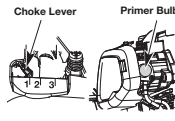

Fig. 5
3. Fully press and release the primer bulb 10 times, slowly. Some amount of fuel should be visible in the primer bulb (Fig. 5). If fuel can not be seen in the bulb, press and release the bulb until fuel is visible.
4. Place the choke lever in **Position 1** (Fig. 5).
6. Place the choke lever in **Position 2** (Fig. 5).
9. Continue squeezing the throttle control, move the choke lever to **Position 3** (Fig. 5) and continue warming the engine for an additional 60 seconds. The unit may be used during this time.
If... the engine hesitates, return the choke lever to **Position 2** (Fig. 5) and continue the warm-up.